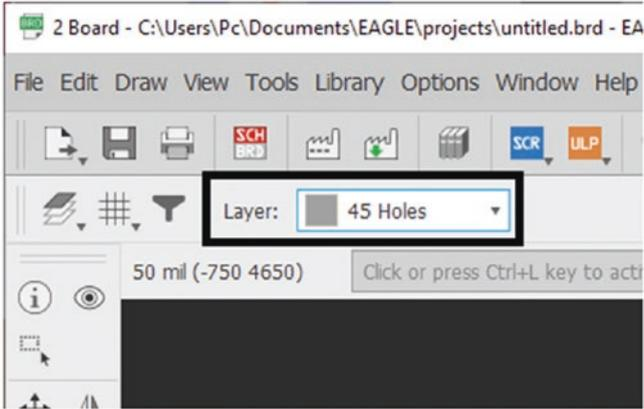

Figure 7-7. Select the “Holes” layer
5. Select the Holes layer. See Figure 7-7.